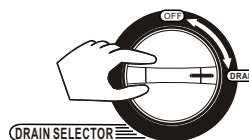

Figure 5
6. After completion of wash, please set drain selector at Drain position. (Figure 5)